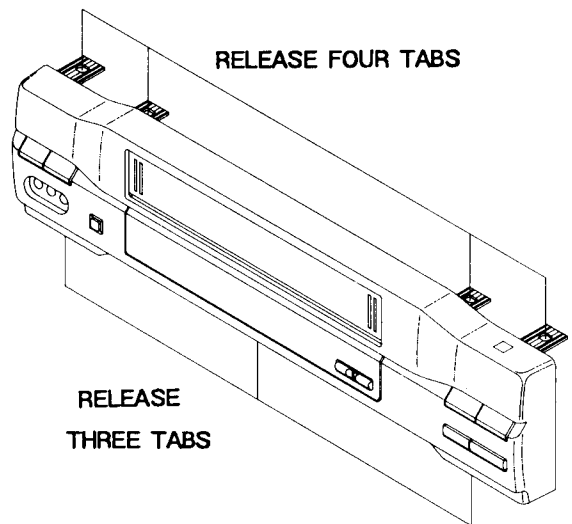

Fig. 3 Front Panel Removal
1. Remove screws (⑨, ⑩) and release the bottom cover.
2. Remove screws (①, ②, ③) and release the top cover.
3. Release the front panel as shown in Fig. 3